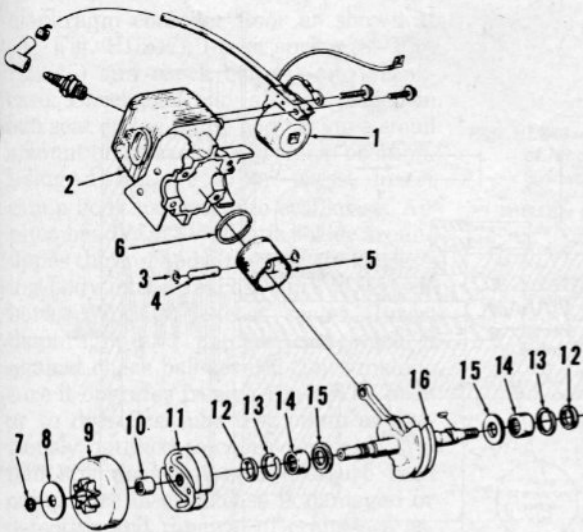
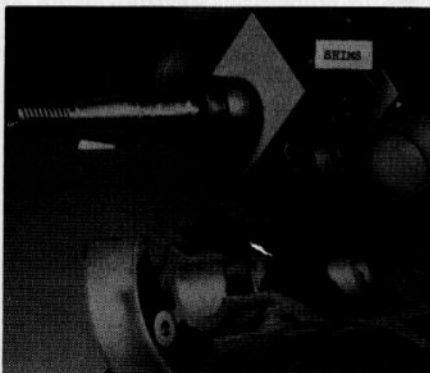

Fig. HL241—Exploded view of cylinder, crankshaft and clutch assemblies.
Fig. HL244—View showing placement of shims (Fig. HL243) between thrust washers (15—Fig. HL241) and bearings (14) for correct crankshaft assembly. Refer to text.
Fig. HL243—Shims used in crankshaft assembly may be made by cutting 0.015 inch thick plastic, metal or other suitable material in the outline shown above. Refer to Fig. HL244 and text.
Inspect crankshaft bearings and renew if scored or worn. Thrust washers (15—Fig. HL241) should be installed with shoulder to outside. Crankshaft seals are installed with seal lip to inside. Cylinder and crankcase mating surfaces should be flat and free of nicks and scratches. Mating surfaces should be cleaned then coated with room temperature vulcanizing (RTV) silicone sealer before assembly.
Bearings, seals and thrust washers must be positioned correctly on crankshaft before final assembly. Use the following procedure for crankshaft installation: With piston assembly installed on rod, insert piston in cylinder being sure piston ring is aligned on locating pin. Install thrust washers (15—Fig. HL241), bearings (14), seal spacers (13) and seals (12) on crankshaft. Place 0.015 inch thick shims shown in Fig. HL243 between thrust washers and bearings as shown in Fig. HL244. Gently push seals toward crankshaft counterweights until assemblies are snug. Remove shims and complete assembly being careful not to disturb position of thrust washers, bearings and seals; do not tighten crankcase screws. Gently tap crankshaft at both ends, then tighten crankcase screws.